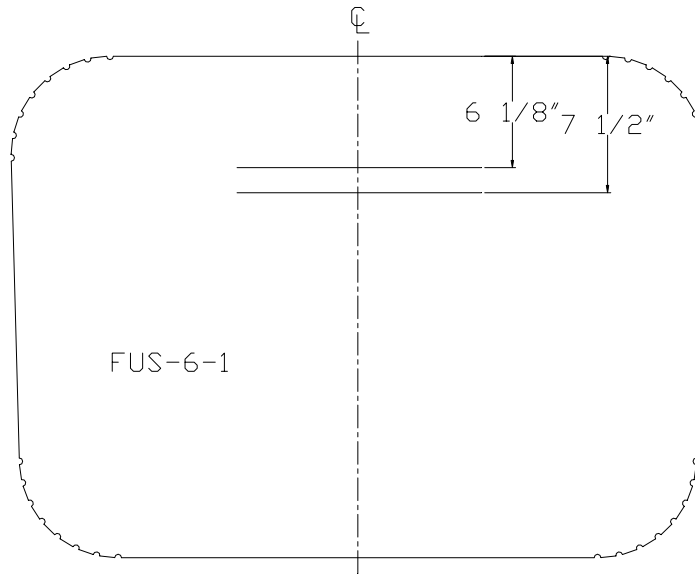

Figure 9.19.1
- 1) Draw a center line on the FUS-6-1 Firewall. Draw two lines that intersect the center line, one line 6-1/8" down from the Firewall's top flange, the other 7-1/2" down. Figure 9.19.1. Firewall is tapered, make sure it is correctly orientated. It is wider at the top.